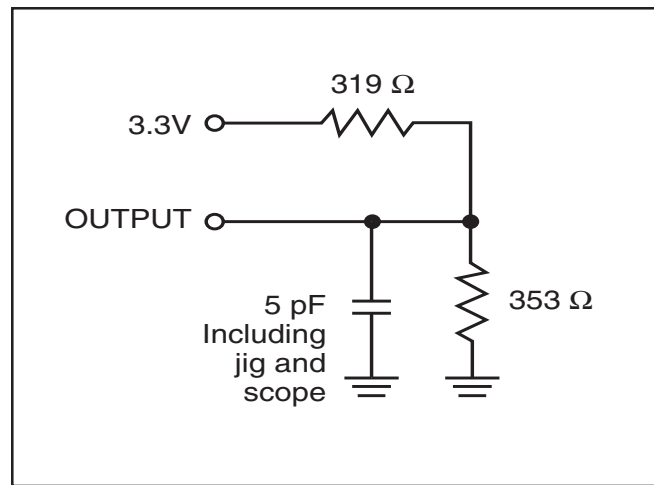

Figure 2
2. Tested with the load in Figure 2. Transition is measured ±500 mV from steady-state voltage.
2. Tested with the load in Figure 2. Transition is measured ± 500 mV from steady-state voltage. Not 100% tested.